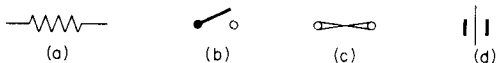

Fig. 13
32. Which of the symbols shown in Fig. 13 indicates an electrical fuse.